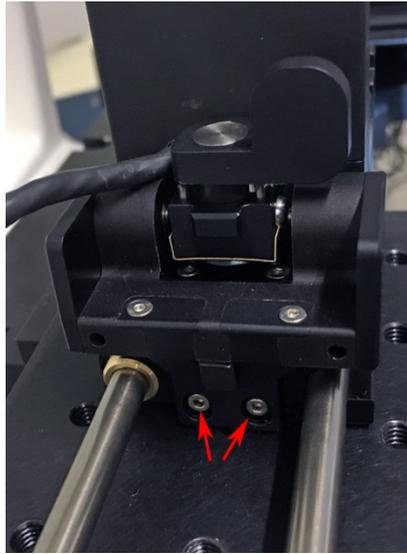
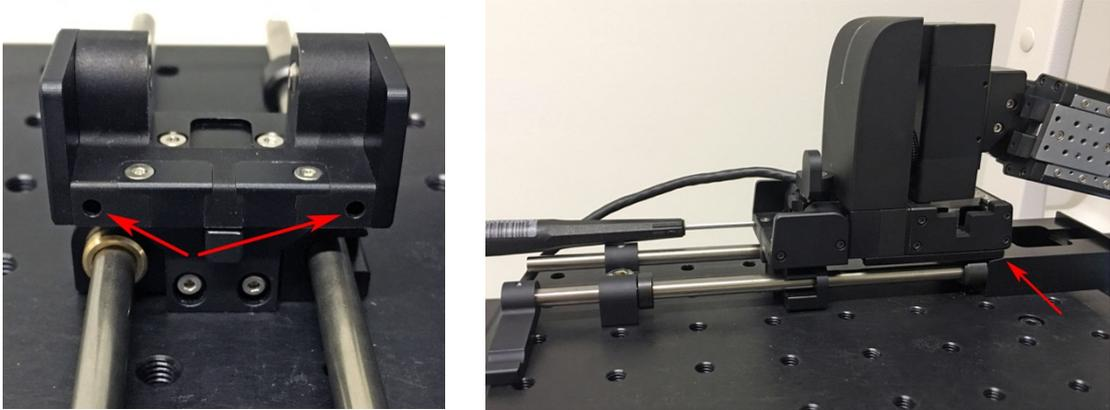

Figure 3.2. Pick up module alignment
Figure 3.4. Tuning manipulator tilt angle while carried by the pick-up module
2. Ensure that two set screws adjusting tilt angle (Fig. 3.4) are backed out so that they are not extending beyond the manipulator facing surface (default when shipped). Also ensure that screws marked with red arrows are loose (default when shipped). Push the pick up module against the manipulator and lock it to manipulator by turning the lever to point to the right as in Fig 3.2. Gently tighten gradually the two screws one at the time until both of them are firmly tight. This aligns the pick-up module with the installation geometry to allow smooth entry to and exit from the docking base.
4. Horizontal tilt angle needs to be adjusted for smooth entry / exit to docking base. Two set screws that define this angle can be adjusted from the holes marked in red arrows in Fig. 3.4., left. To adjust, unlock docking base by turning the lever at the back, slide manipulator out from docking base so that its front edge is at the point where sloped entrance becomes flat. Adjust with using only other set screw first. Loosening the screw will lower the front end of the manipulator and tightening will lift it up. Right adjustment is such that front edge of the manipulator is just above the level of the docking base flat surface; if front end is too high the manipulator will not enter / exit docking base smoothly. After right adjustment is found, gently tighten the other set screw that it is just in touch with the manipulator but does not start to lift its front edge.